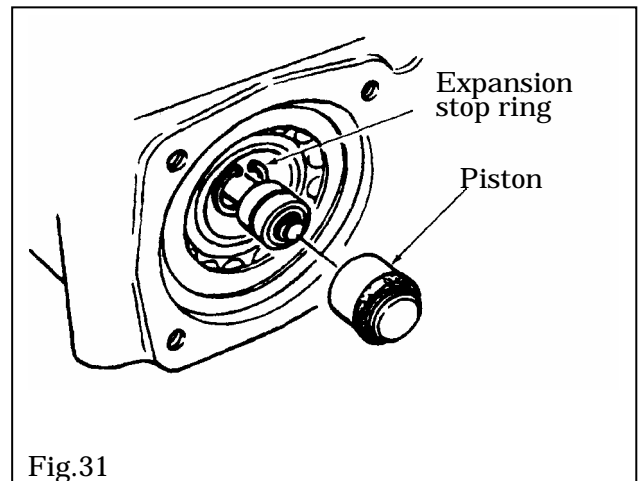

Fig.31
3. Place the piston over the bearing and push the assembly into vibrator case, before retaining it with the expansion stop ring which had been installed earlier (See Fig.31).